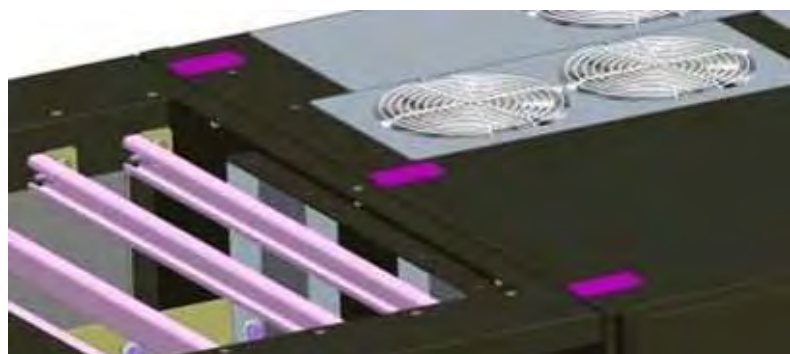

Figure 3.3 U-brackets Figure 3.4 Cabinet tie bars
2. Attach the two U shaped brackets to the left base of the UPS cabinet using 2x M5 screws to secure each bracket, as shown in Figure 3.3 – affix the screws through the base of the UPS into the brackets.